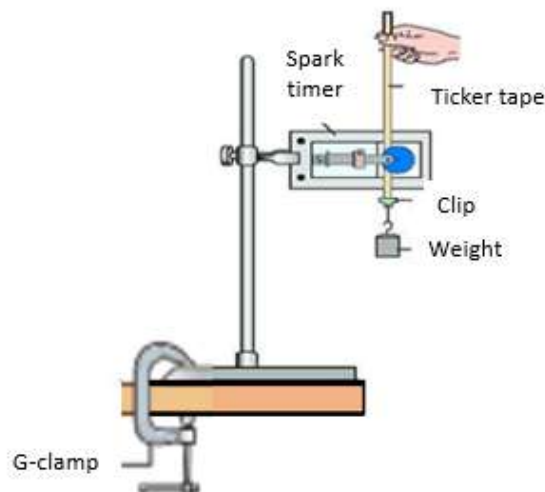

Figure 1
1. Secure the ticker-timer on a stand, approximately 2 meters above the ground, and fasten it to the table using a G-clamp, as shown in Figure 1.